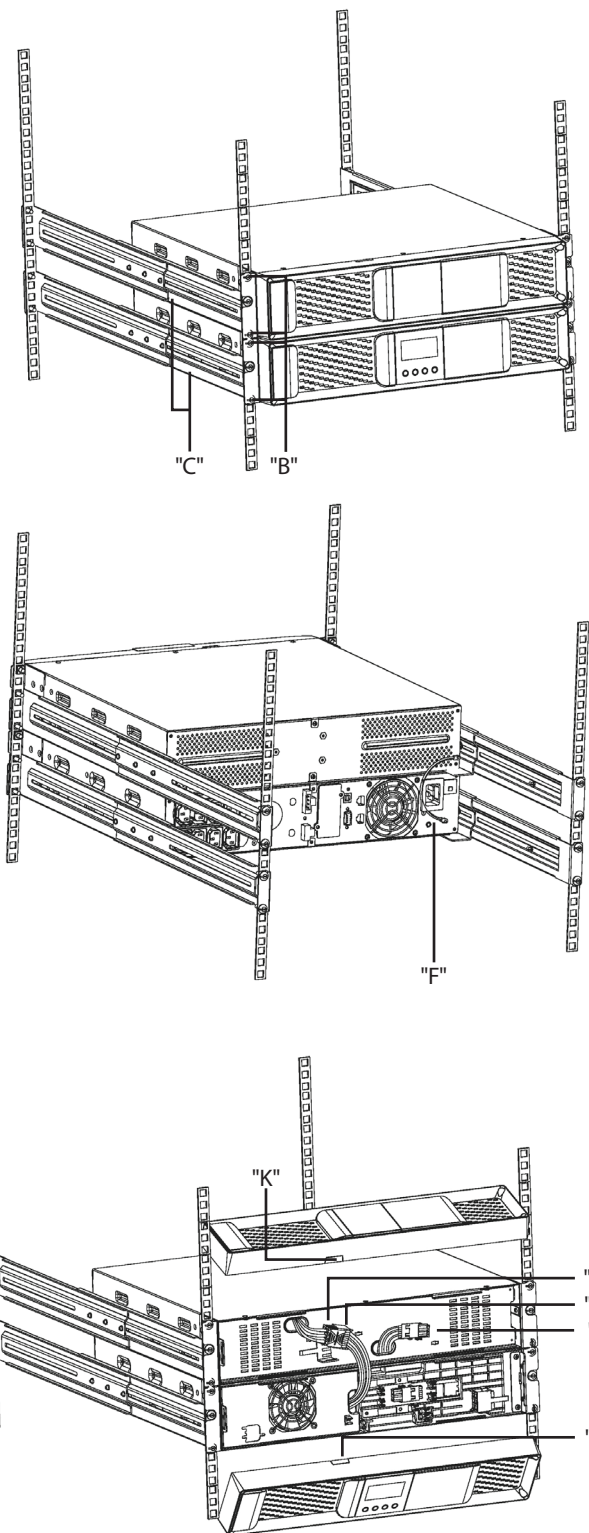

Fig. 9. Model in rack-mounting format in 19" cabinet, with extended back up time (battery module).
- This section describes a single equipment with only one battery module (see figure 9). For higher quantity of modules reproduce the connection procedure among them.